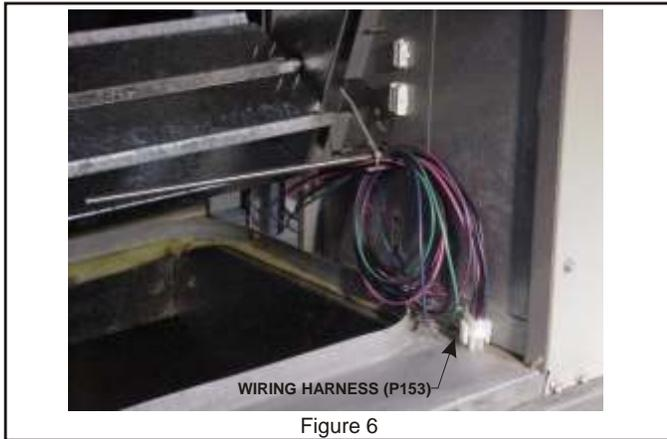

Figure 6
- Route the 6-pin connector P153 and wiring harness under the economizer and out through the return air. Coil excess wire and route into return air of the rooftop unit. **See Figure 6.**